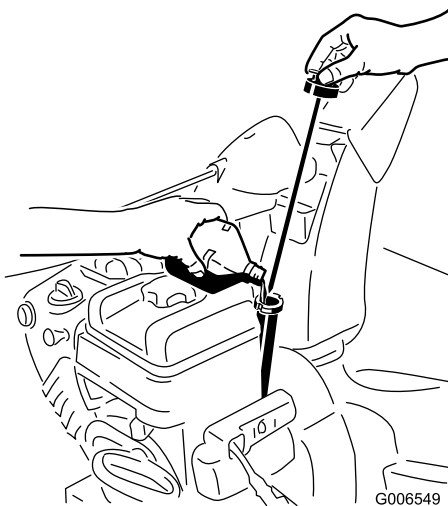

Figure 19
- Remove the dipstick and **slowly** pour oil into the oil fill tube to raise the oil level to the Full mark on the dipstick. **Do not overfill** (Figure 19). Refer to Checking the Engine Oil Level in Maintenance.